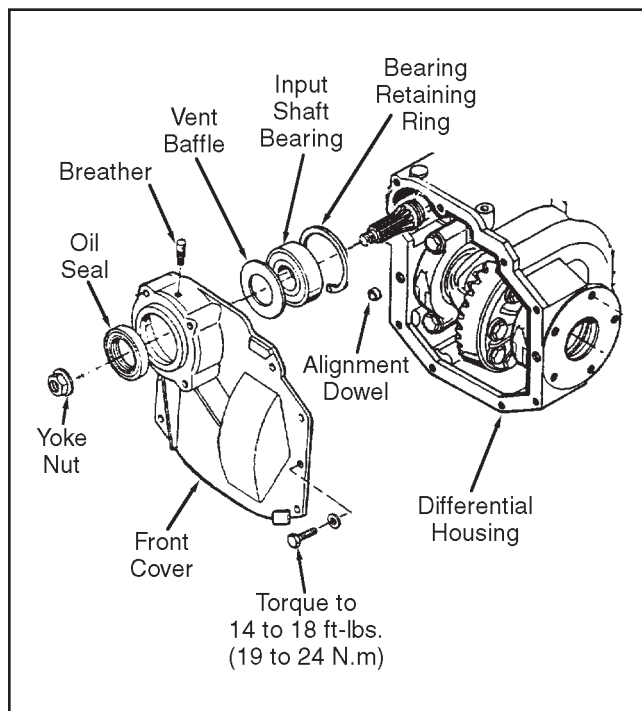

Figure 4I-6. Front Cover Disassembly
2. Remove the cover retaining screws as shown in Figure 4I-6 and the shift cable bracket screws (see Figure 4I-5).